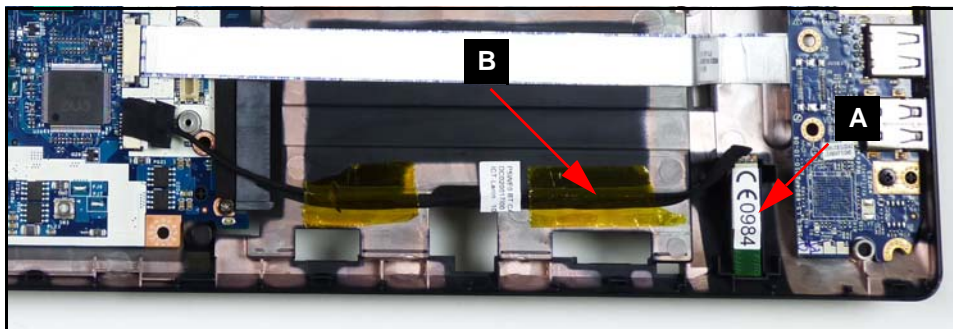

Figure 3-29. Bluetooth Module
2. Remove module (A) from adhesive strip on upper cover (Figure 3-29).
1. Connect module cable (B) to module (A) (Figure 3-29).
2. Install and secure module (A) to adhesive strip on upper cover.